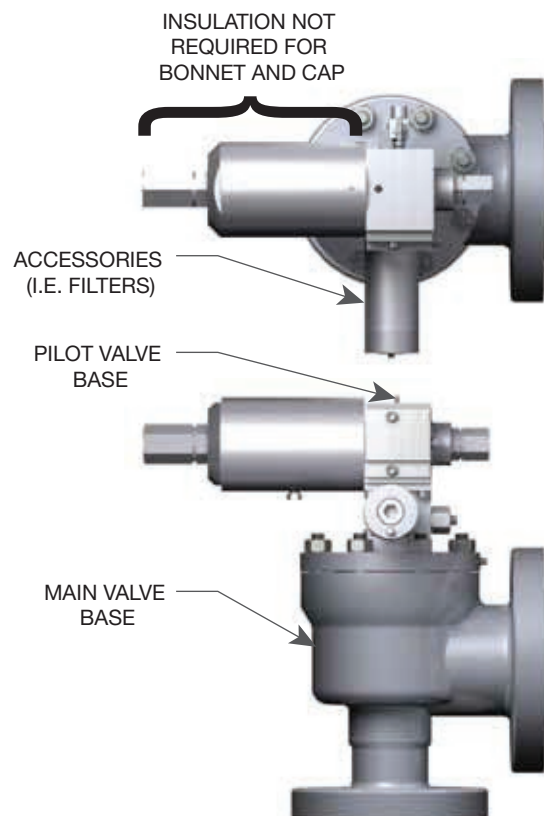

Figure 11: Valve Insulation
- Valve illustrations showing acceptable locations for insulation are shown in Figure 11.